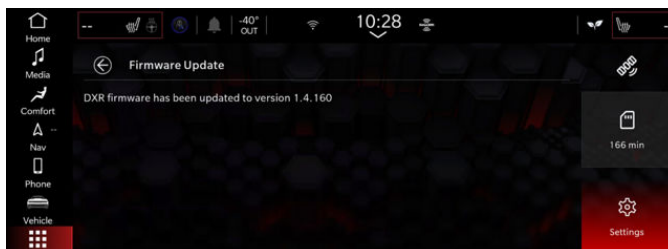

Fig. 18
31. This message will be displayed when the update is complete Fig. 18.